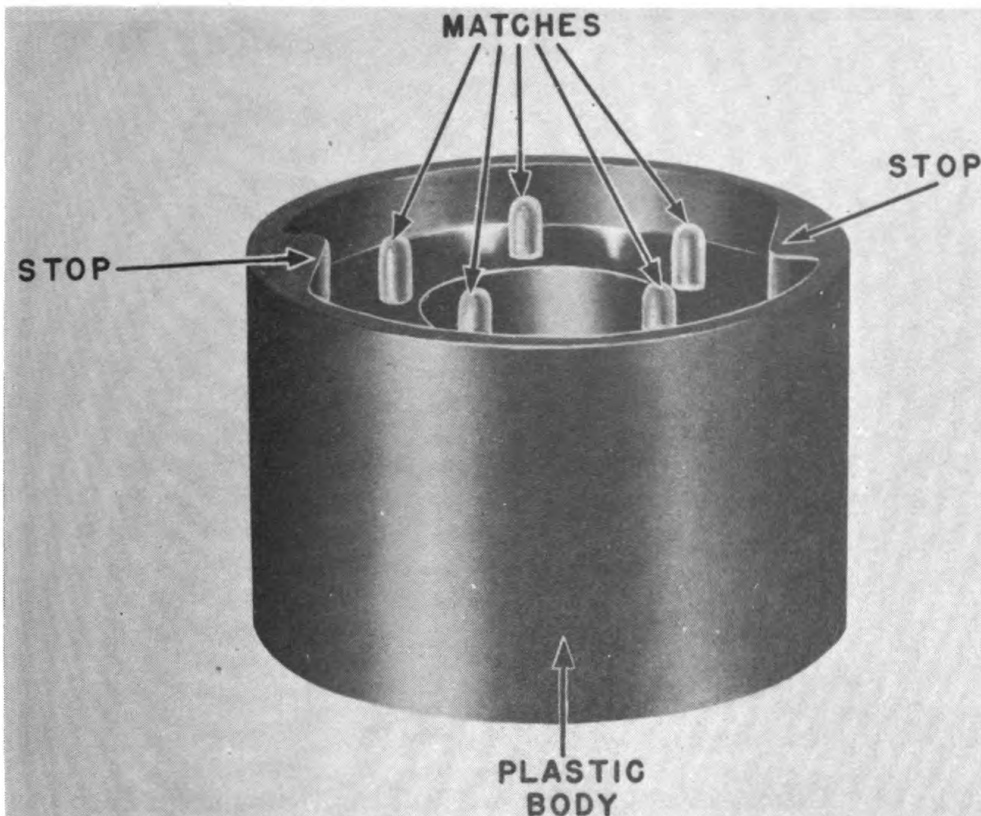

Fig 13. Ignition cylinder before use.
b. Precautions. Care must be taken, whenever cylinders are handled, to avoid any blows or pressure against the metal match ends. (Fig 13) Face, hands, and other parts of the body should never be exposed to front of cylinder or front of gun.
a. Description and functioning. (Figs 13 and 22) Either the M1 or E1 ignition cylinder may be used. It fits over the fore part of the barrel assembly and is revolved by the spring case. (Par 76) The five incendiary charges in the cylinder are spaced sufficiently far apart in the plastic body to prevent their igniting one another. Lead-foil seals, plastic closure plates, and waterproof cement make the unit comparatively waterproof.
(1) Opening cans. Do not open cans containing cylinders until ready to load for a mission. (Par 18) If an extra cylinder remains in an opened can, use it as soon as possible. Any defective cylinders, such as those with damaged closure plates, should be destroyed. (Pars 30 and 46) Moisture may affect the cylinders and all possible care should be taken to avoid exposing them to dampness.
(2) Handling cylinders. Pressure on any of the five metal matches (Fig 13) may ignite an incendiary charge in the cylinder. Care must be exercised to avoid putting pressure on the projecting ends of the matches except when firing the weapon. Ignition cylinders and cylinder containers should be protected against shock. Boxes and cans containing cylinders must not be thrown or dropped.
(3) Storing containers. Containers of ignition cylinders are best stored in a dry, well-ventilated place, out of the direct rays of the sun, well protected against excessive temperatures. Smoking is not permitted and matches are not used where ignition cylinders are stored.